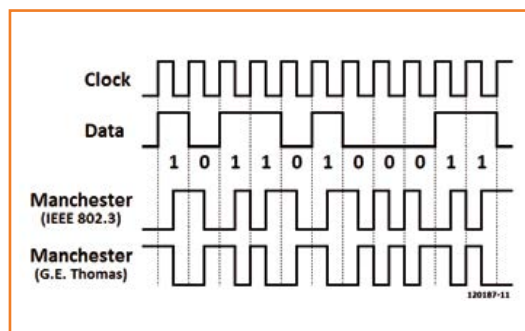

Figure 1. Manchester Code logic and conventions.
**Figure 1** shows the logic behind the Manchester Code and the two conventions to represent each bit. We will be using the IEEE 802.3 definition: a logic '1' will be represented by a Low-to-High transition, while a logic '0' will be the opposite